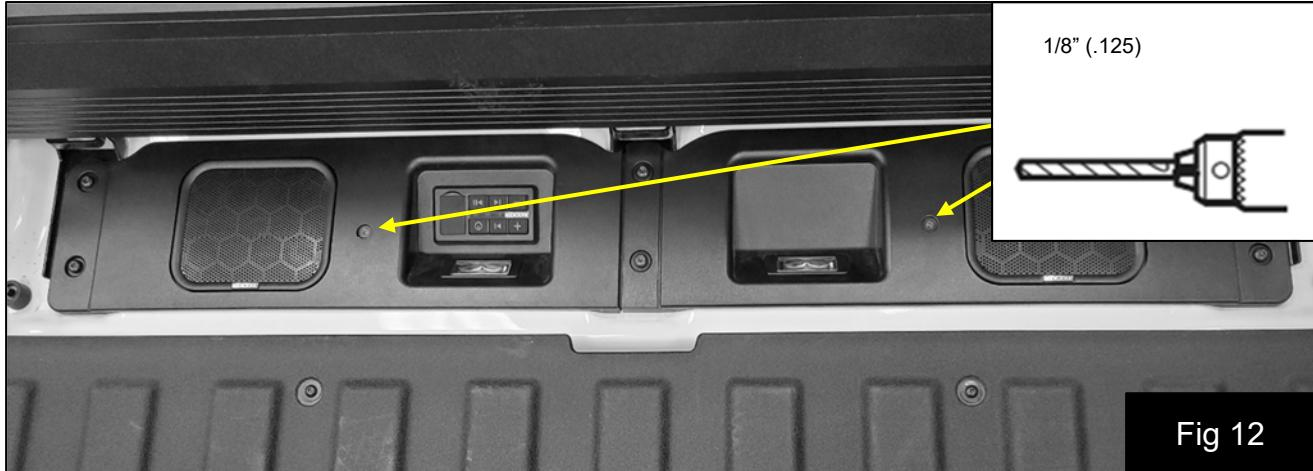

Fig 12
18. Temporarily install the speaker baffle and loosely install all six supplied replacement bolts. The right side baffle should overlap the left side baffle in the center. Fig 12
20. Predrill the two pilot holes for the supplied fine-threaded screws using a 1/8 (.125) drill bit and then remove the bolts and speaker baffle. Fig 12